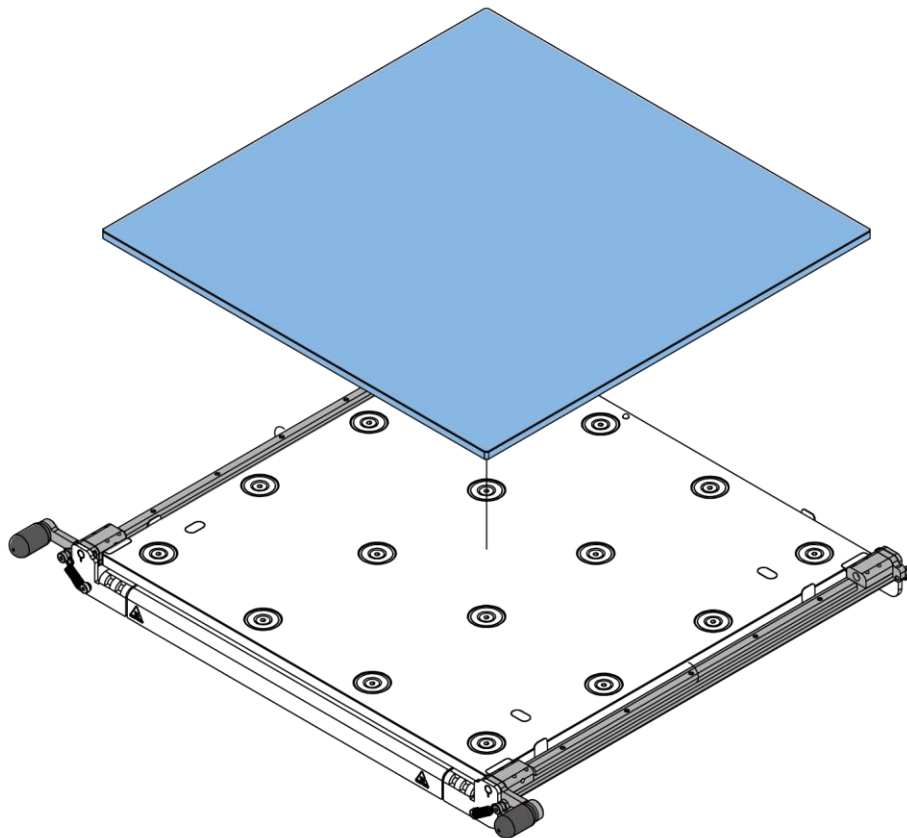

Fig. 72 Build plate installation – place glass build plate
7. Place the glass on the heatbed (Fig. 72, blue). A printer sensor read if the glass is in place.